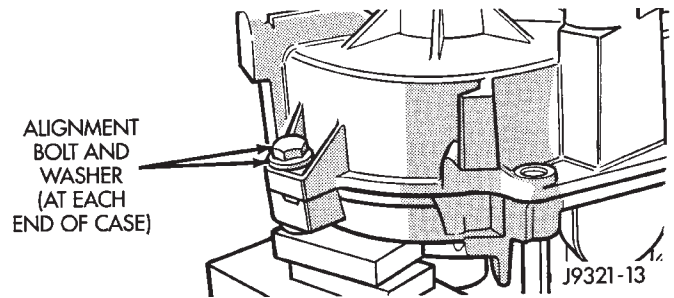

Fig. 68 Alignment Bolt Location
(14) Install case attaching bolts. Alignment bolts at each end of case are only ones requiring washers (Fig. 68).